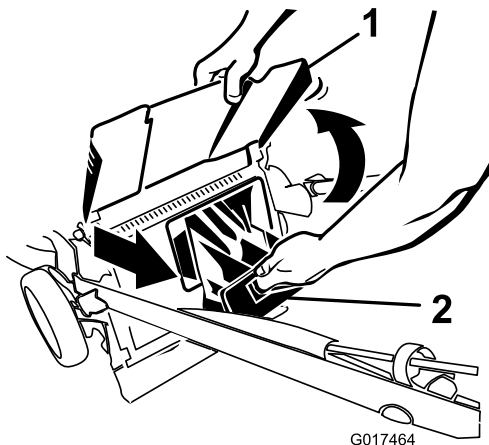

Figure 25
2. Raise and hold up the discharge deflector (Figure 25).
3. Pull out the rear-discharge plug (Figure 25).